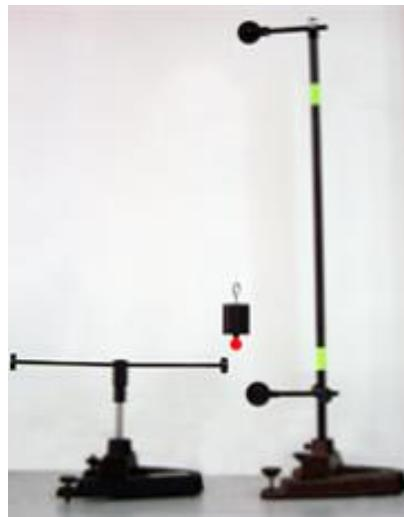

Fig. 9. The moment of inertia of a bar.
- (a) Create the set up shown in *Fig. 9* and make sure that it does not reach the pulley when the weight is placed at the end of its position.
- (b) Connect webcam to the computer and run the video capture program. Drag the camera icon in the column on the right side to the center and determine if the apparatus shown in *Fig. 9* is displayed.
- (c) Repeat (c) to (f) of experiment I with the apparatus in *Fig. 9*.
- (e) Repeat (g) to (n) of experiment I with the apparatus shown in *Fig. 9* and calculate the average acceleration.